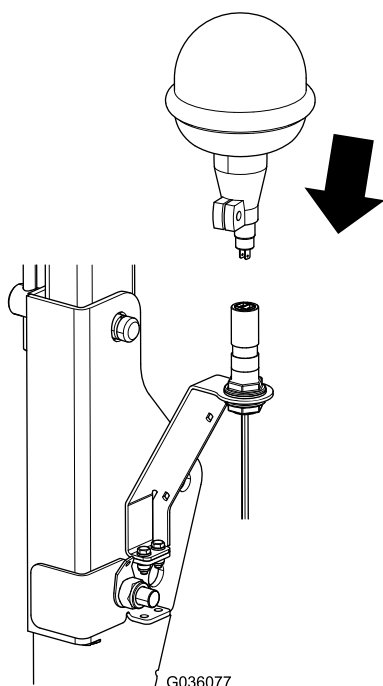

Figure 6
5. Plug the beacon onto the top of the beacon stand (Figure 6).